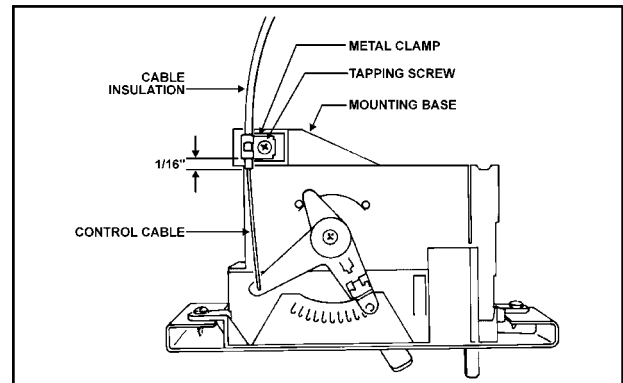

Figure 69: Cable Adjustment at Control Panel
**NOTE:** On the control panel, check that the control cable insulation extrudes no less than  $\frac{1}{16}$ " past the metal clamp on the control panel mounting base. If less than  $\frac{1}{16}$ ", go to next step. (Fig. 69)